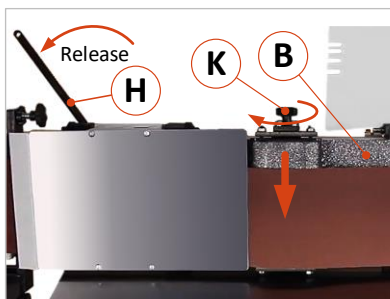

Figure 22: Insert sanding pad
- Switch off the main switch (1) and secure it by locking it.
- Loosen the handle screw (25) and pull the table top (11) backward (away from the sanding belt).
- Release the tension of the sanding belt with the tension lever (H).
- For easier working and a better overview, the two veneer fences (7) and (4) should be in the raised position and secured against falling down by means of locking springs (S). Beforehand, position the table downwards so that the two veneer fences can be opened.
- Then push the sanding pad between the loose sanding belt and the flat sanding belt back (B) from above into the sanding device (see ⇒ Figure 22) → To do this, insert the centring pin (Z) of the machine into the receptacle (A) on the sanding pad.
- After the sanding pad has been correctly inserted, fix it in place with the clamping wheel (K).
- Then fold down the two veneer fences (7) and (4) again by unlocking them first with the locking spring (S)